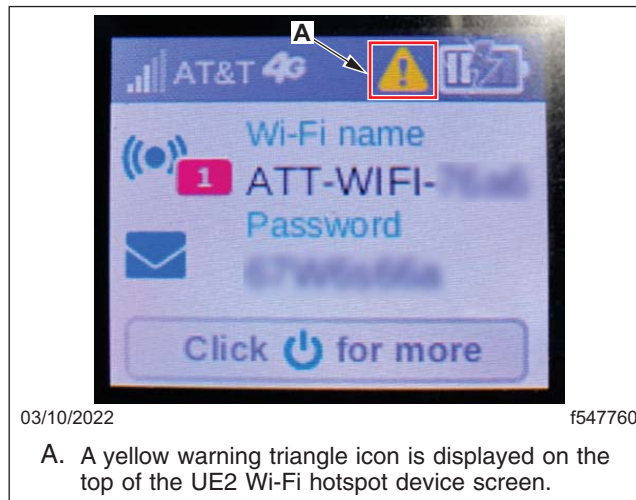

Fig. 38, Yellow Warning Triangle
19. Check if a yellow warning triangle icon with an exclamation mark is displayed on the top of the UE2 Wi-Fi hotspot device screen, near the battery charge indicator as shown in Fig. 38. Is a yellow warning triangle icon with an exclamation mark displayed?